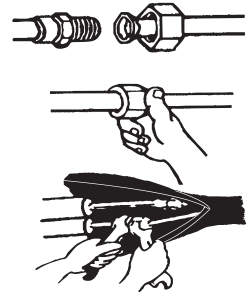

Fig. 12
4) Refer to Fig.12 to connect the piping.